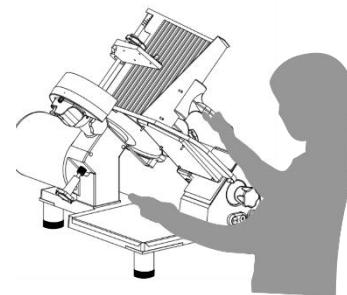

FIG 6. WORKING POSITION
- 5.- Turn on the machine using the On/Off switch (7), the pilot safety light switch gives warning that the slicer is running.
- 6.- Locate in the correct working position (See Fig. 6), and now you can start to slice the product; this machine has been designed with a 45° angle so that minimum effort is required to push the product through the cut. For best results, keep knife (2) sharp.
- 7.- When finished, always turn the machine off by using the switch (7) and turn the slice adjusting knob clockwise as far as it will go (be sure that the thickness gauge plate covers the edge of the knife to prevent any possible accident).
- 8.- Replace the grip (15) to its stowed position under the carriage (4).